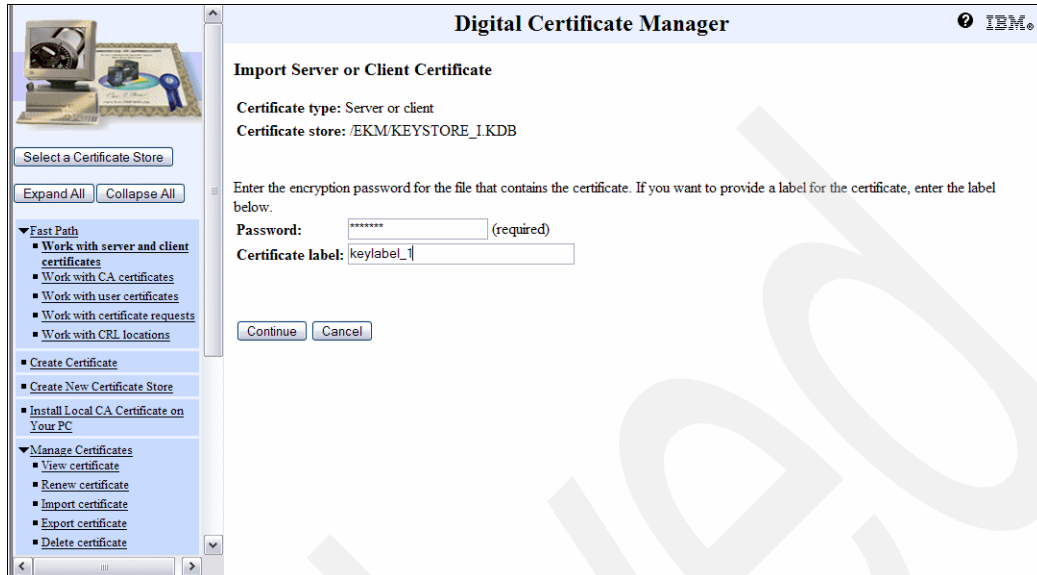

Figure 6-56 Importing the key
3. Enter the password for the keystore from which you want to import the keys, and specify the key label. Click **Continue** (Figure 6-56).